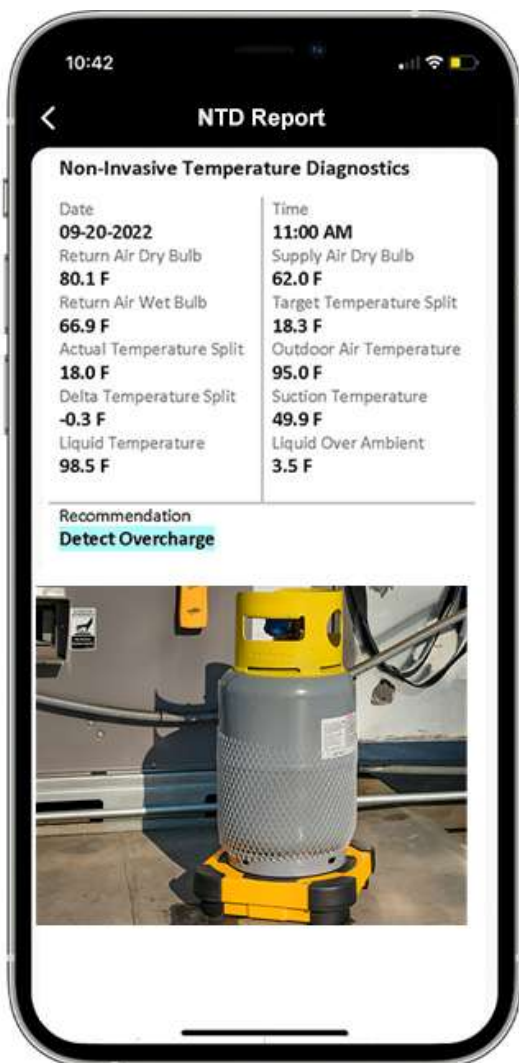
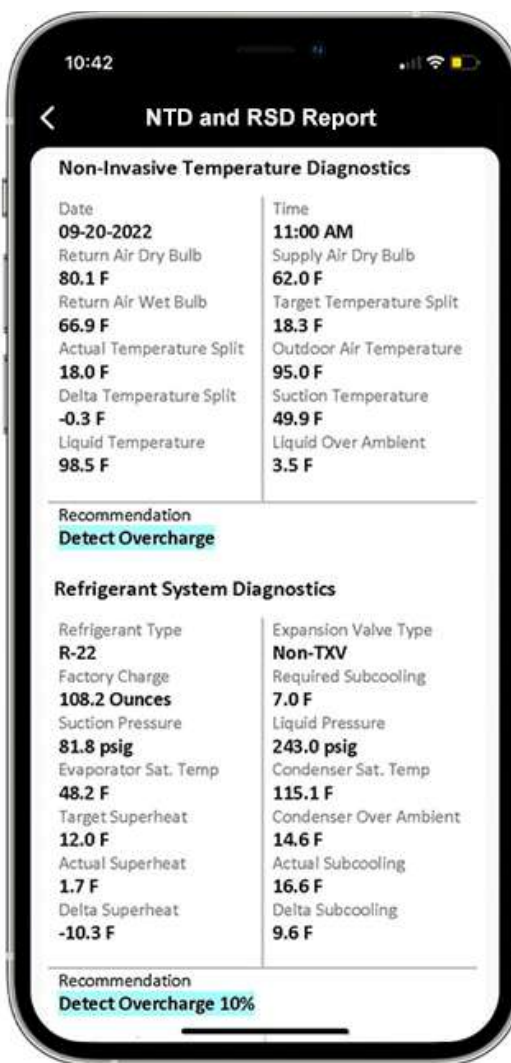

Figure 3.11 NTD Over Charge
Figure 3.12 NTD and RSD Over Charge 10%
Figure 3.11 shows the NTD method detecting an Over Charge (OC). **Figure 3.12** shows the RSD method detecting the same OC of 10%. The NTD cannot determine the OC amount. Standard superheat methods do not determine the OC amount, but the RSD method can detect the OC amount using delta Subcooling. The NTD method avoids removing refrigerant charge which generally provides negligible energy savings. The RSD with refrigerant pressure gauges connected using best practices to avoid venting will provide accurate evaluations of SH and SC to cost effectively determine how much refrigerant charge to remove and repair serious faults such as restrictions or non-condensables on newer systems